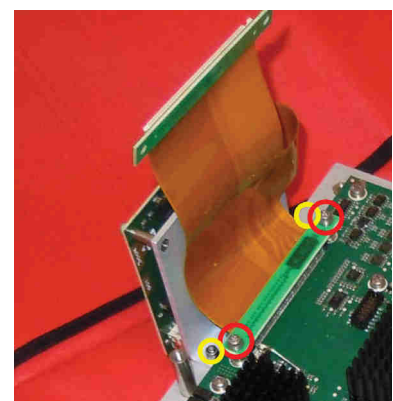

Fig. 7.24 Removal of Board
- 8 Remove two screws and two nuts holding the connector and the support angle, respectively. See Fig. 7.24 \(p. 125\) - red circles indicate two screws on connector (tools 1/7), yellow circles indicate the two nuts holding the support angle (tools 1/2).